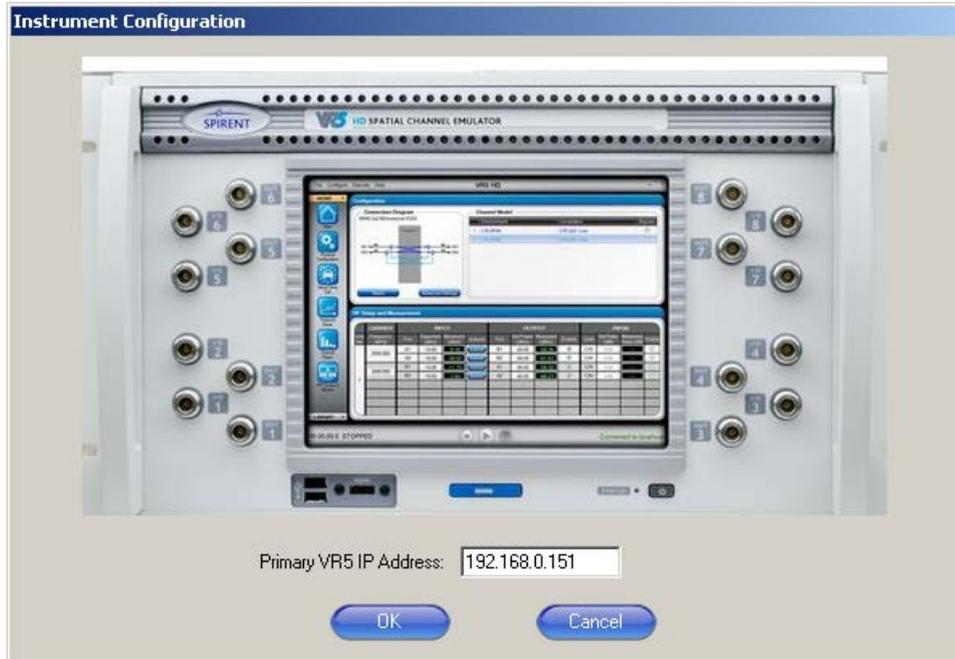

Figure 3-27: Instrument Configuration Window
2. If you are currently running in "Localhost" mode, close the application and restart MIMO OTA Environment Builder. When prompted to configure the instrument, enter the IP address of the Primary VR5, as shown in Figure 3-27 and click **OK**.